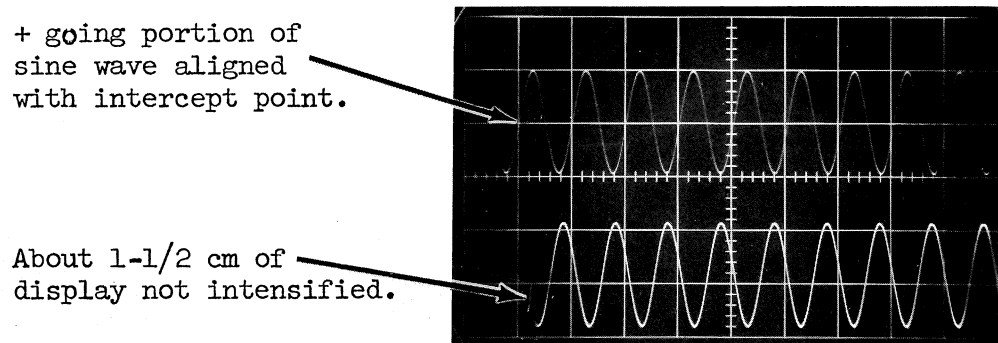

Figure 91
11. Set the DELAY TIME MULTIPLIER so the + (positive) going portion of a 10 MC sine wave on the delayed sweep, is aligned with the intercept point. Note the helical reading. (See Fig. 91) Example: 0.99